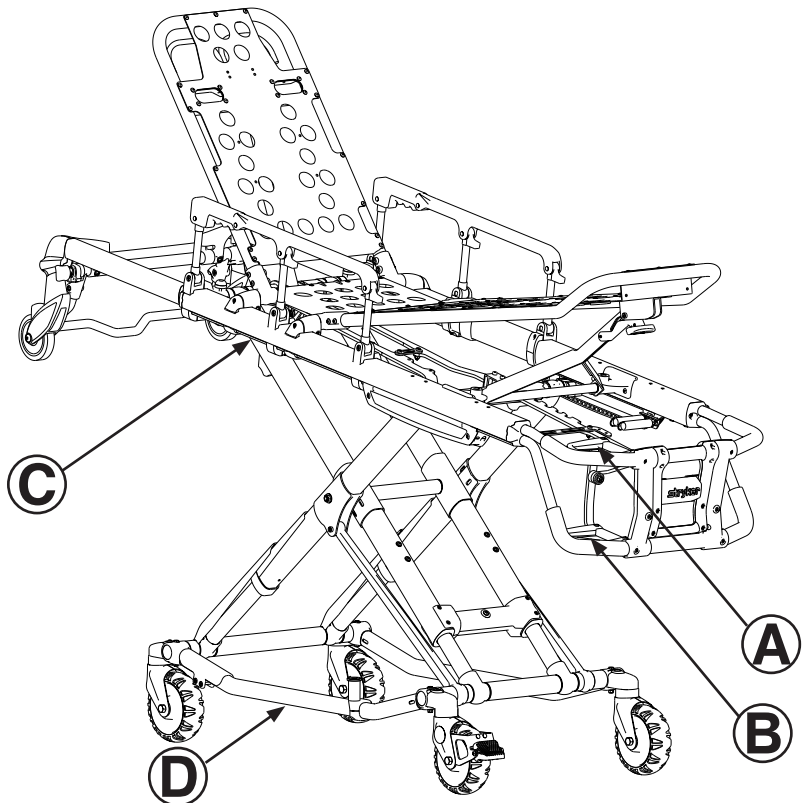

Figure 13
1. The operator at the foot end of the cot squeezes the release handle (A or B) while a secure grip is maintained on the lifting bars (see Figure 13).
2. The operator on the patient's right or left (depending on the location of the release handle) reaches the release handle at the midpoint of the litter (C). Both operators must lift the cot until the weight is off the latching mechanism (approximately 1/4") (see Figure 13).
4. **Operator 1** – Grasp the cot frame at the foot end. Lift the foot end of the cot until the weight is off of the latching mechanism. Squeeze and hold the release handle (A or B, as shown in Figure 13 on page 29).